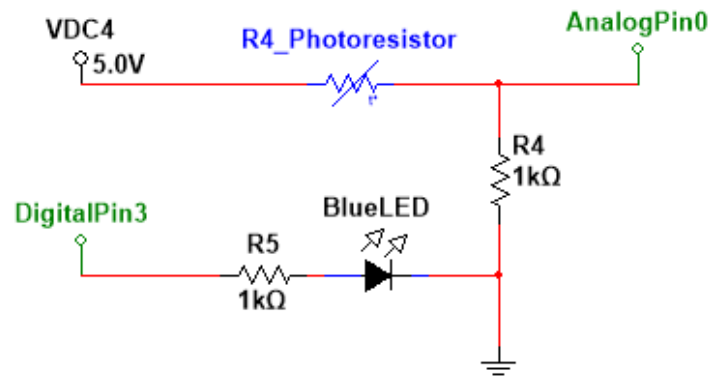

Figure 2. Schematic set up showing components and Arduino UNO header connections.
- A. Add the components in shows in Figure 2 to your current circuit. Use the blue LED for this part of the lab. A photograph of the complete lab exercise can be seen in Figure 3.